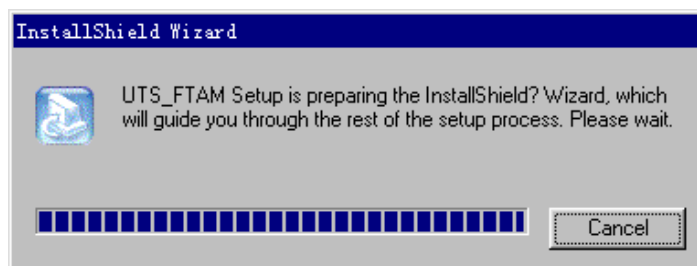

Figure 2-57 InstallShield Wizard message
- 1) Insert the UTS-FTAM 7.2 CD into the CD-ROM drive. Double-click Setup.exe. A setup message is displayed, as shown in Figure 2-57.